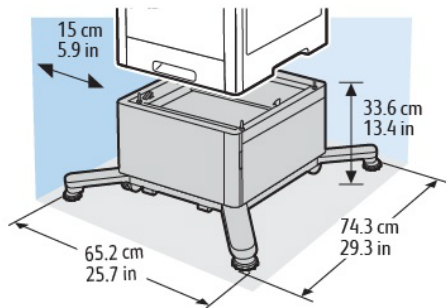

Figure 5 Caster base with cabinet
- Figure 5, Table 9: Caster base with cabinet